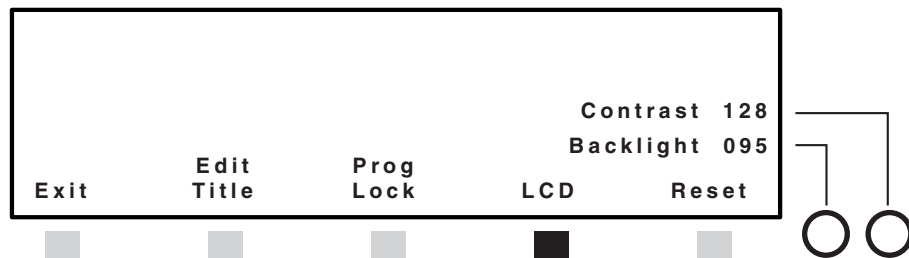

Figure 3-22 — Setting the LCD appearance
1. From the default menu, press the Menu button, then the Next button, then the LCD button (figure 3-22).